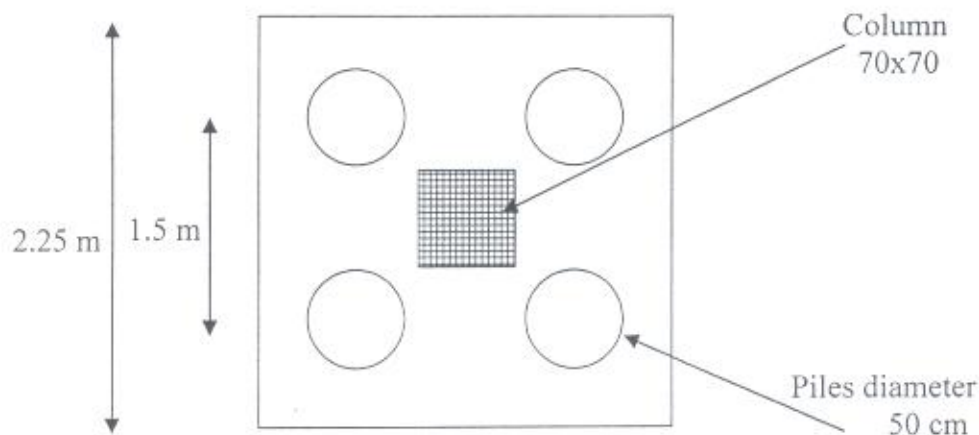

Fig. 1
- (b) For the shown plan of the four pile cap in figure 1, if the thickness of the cap is 0.90 m and the bottom reinforcement in both directions is $7 \phi 22 / \text{m}$ (high tensile steel), you are required to: